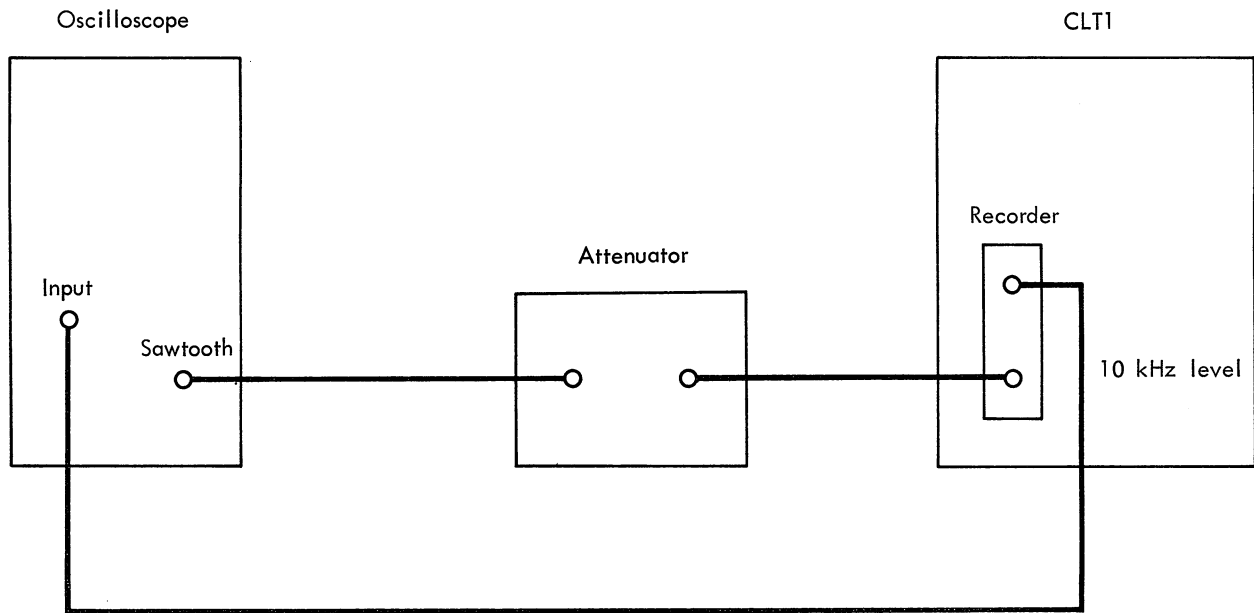

Fig.17. Set-up used for checking the power law of components.
4. Connect the sawtooth output of the oscilloscope to the 10 kHz LEVEL input terminals (located on the rear of the cabinet) via the attenuator, as shown in Fig.17.